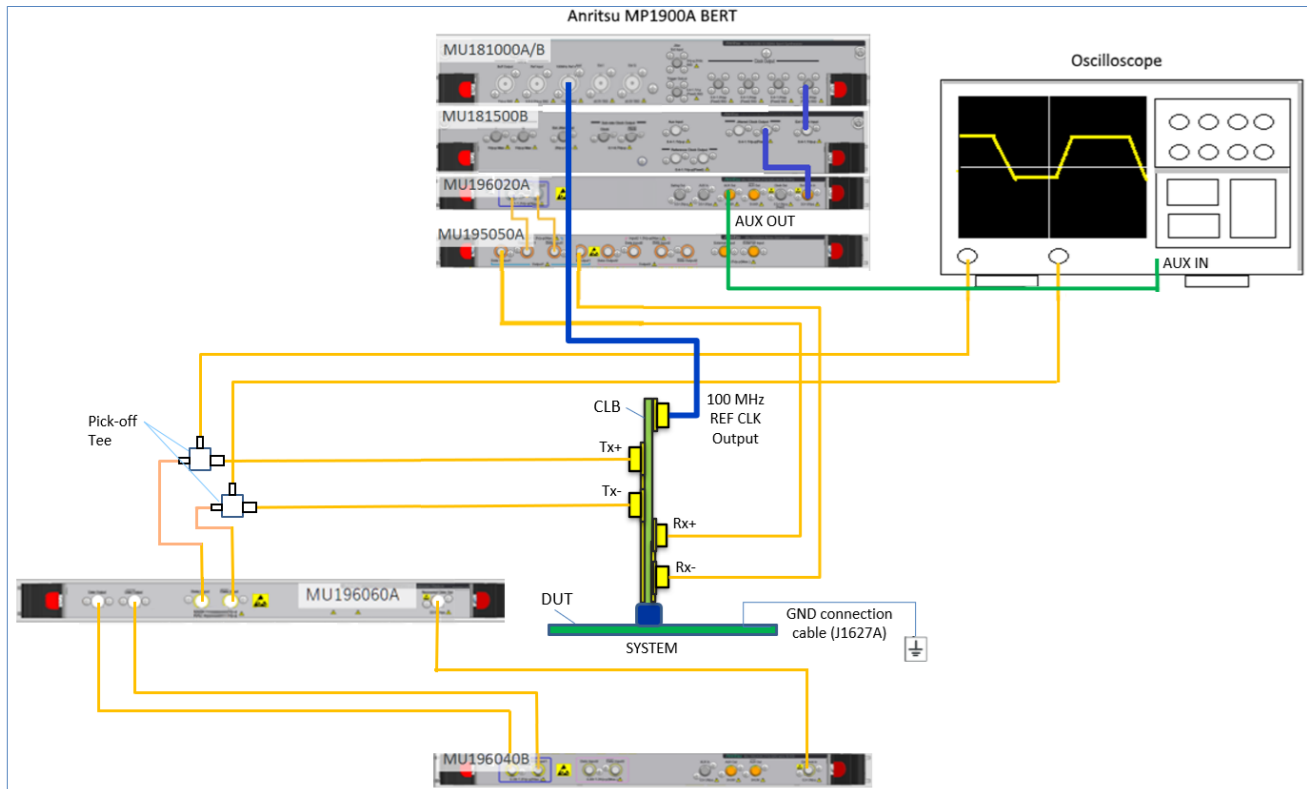

FIGURE 56. CONNECTION DIAGRAM FOR PCIe GEN 6 SYSTEM BOARD DUT TX LINK EQ RESPONSE TEST
1. Using the same setup from the system board link EQ test (Figure 56), remove all oscilloscope connections along with the pick-off tees.